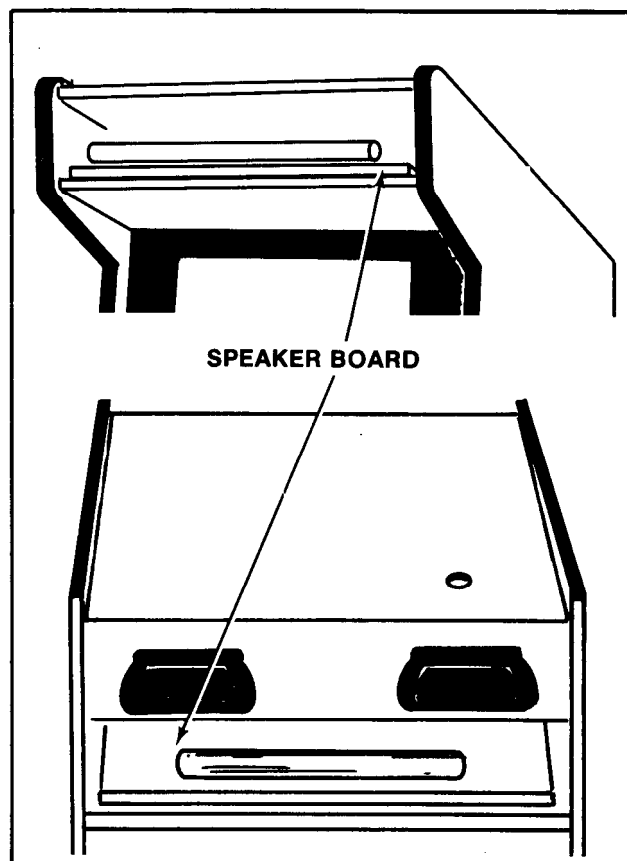

Figure 2-33 Servicing Attraction Panel Lighting
- Removing the light board assembly: See Figure 2-33